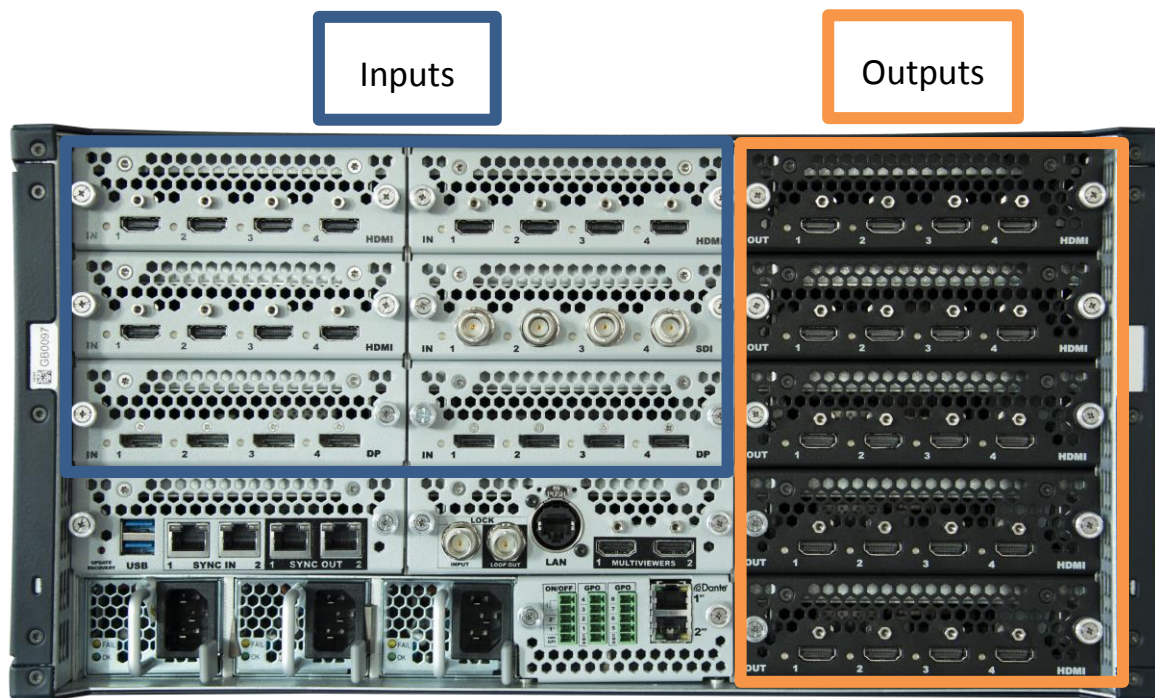

Fig. 2 - LivePremier rear panel (Aquilon RS4)
- Do not force cards in places other than slots specified in *Fig. 2 - LivePremier rear panel (Aquila RS4)* page 17.